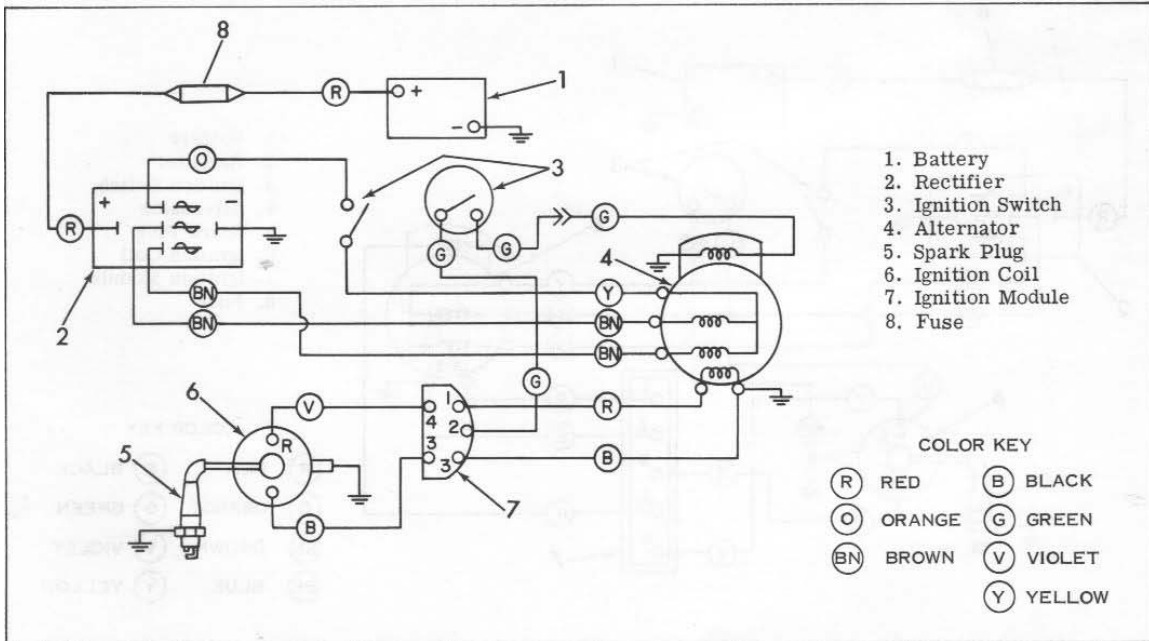

Figure 5.5. Basic Electrical System (Early)
Figures 5.5 and 5.6 show the basic electrical system, excluding lights, functional switches, etc.
The system features a breakerless capacitor discharge ignition (CDI) (7), Figures 5.5 and 5.6. It also includes an alternator (4), ignition switch (3), high tension coil (6), spark plug (5), and an ignition capacitor charging coil located inside the alternator. The alternator has permanent internal magnets, two external trigger projections located on its circumference, and a pickup coil mounted on the crankcase at the side of the alternator rotor. The pickup coil is adjustable for both air gap and ignition timing.
2. Check ignition switch as follows. Do either A or B below, depending upon circuit configuration - either Figure 5.5 or 5.6.
- A. If as in Figure 5.5, remove two green wires shown from back of ignition switch and connect wires together. If spark now occurs at plug when engine is turned over rapidly, the ignition switch is faulty and should be replaced.
The ignition module is encapsulated to form a permanent assembly. There are two different units in use - an earlier and later one - as shown in Figures 5.5 and 5.6. Although they are slightly different in physical appearance, they both function electrically in exactly the same way.